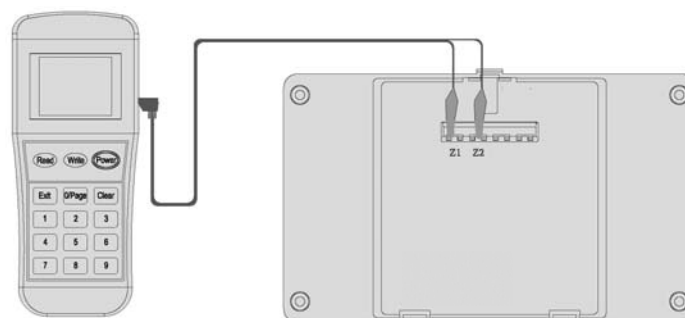

Figure 4: Programmer Connection Detail
1. Connect the programming cable to Z1 and Z2 terminals (Figure 4). Press **"Power"** to switch on the unit.